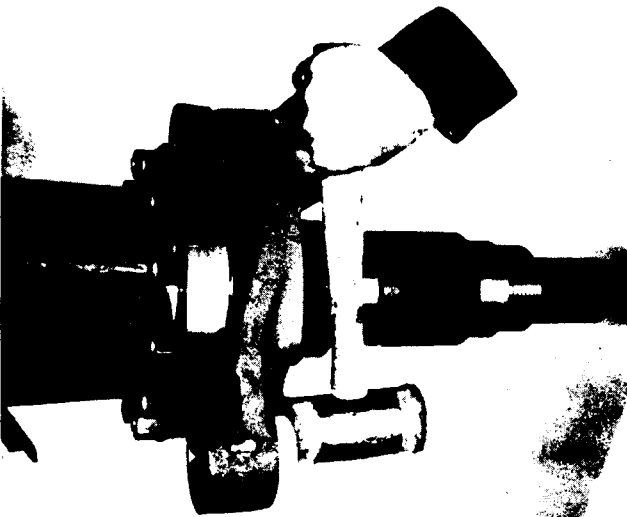

FIG. 170
15. Tap brake camshaft bushing into brake spider (Fig. 170).